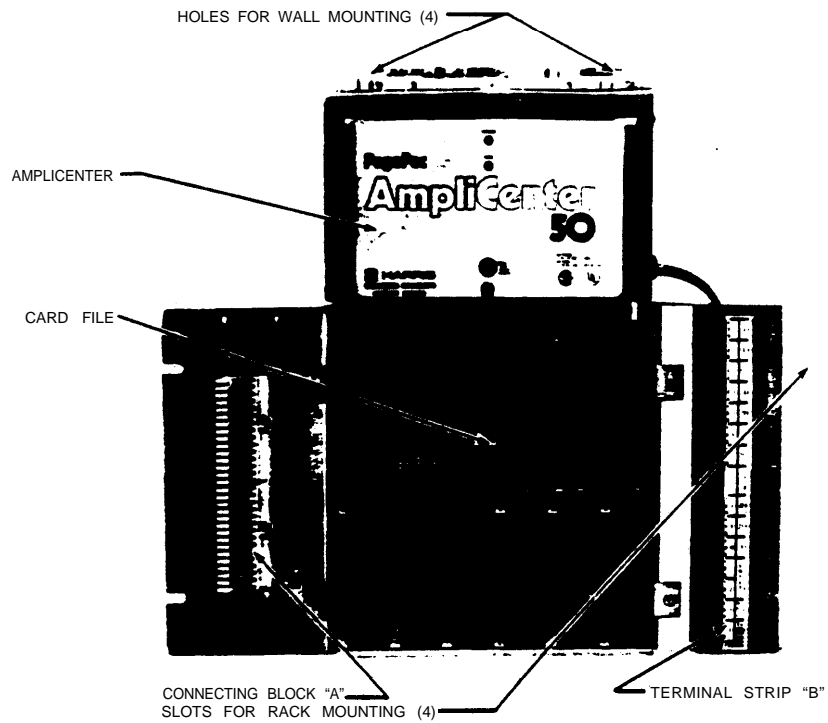

Fig. 2—50-Watt PagePac® Telephone Voice Paging System
3.01 The PagePac Telephone Paging System is available in a 50-watt, 100-watt and 200-watt version. The four models are electrically and physically identical except for the wattage and size of the AmpliCenter power amplifier. Two of the models are shown in Fig. 2 and 3. Each system consists of an AmpliCenter, card file, plug-in circuit cards (ordered separately) and terminal blocks mounted in an aluminum cabinet with protective cover. Each PagePac is prewired, assembled, and tested at the factory. The equipment mounts directly onto a 19" relay rack or on a wall without the use of adapters. For wall mounting, a template is provided as an aid in positioning the mounting screws.
3.02 The card file (see Fig. 2) is mounted just below the AmpliCenter. It consists of two rows of six positions each and will hold up to 12 printed circuit cards. The card file provides a flexible means of equipping any or all of the service features without the necessity of performing wiring changes in the field. All positions are prewired and tested. Each position is dedicated to a specific type of card. Master and auxiliary zone circuits utilize 3½" x 5½" cards which install in the lower section of the card file. All other circuit cards measure 4¾" x 5½" and are installed in the upper section. The position designated **DTMF** on the upper section is not used with the Type C Applique REV A Card, as DTMF decoding is built into the Type C card.
3.04 The AmpliCenter (Fig. 2 and 3) boosts the low-level music and page signals to high levels capable of driving the loudspeakers. The paging preamplifier incorporates limiting and compression circuits so that persons with either loud or soft voices will be heard at the same level. The gain of the paging preamplifier and the compression circuits is preset to provide a paging output level of 70.7V \pm 1 dBm over a paging input level range of -15 dBm to 0 dBm. No field adjustment is required.